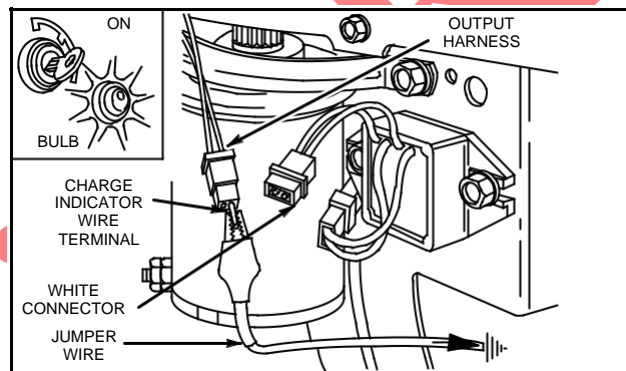

Fig. 28 – Testing Charge Indicator
3. Attach other end of jumper wire to charge indicator terminal in output harness connector, Fig. 28.